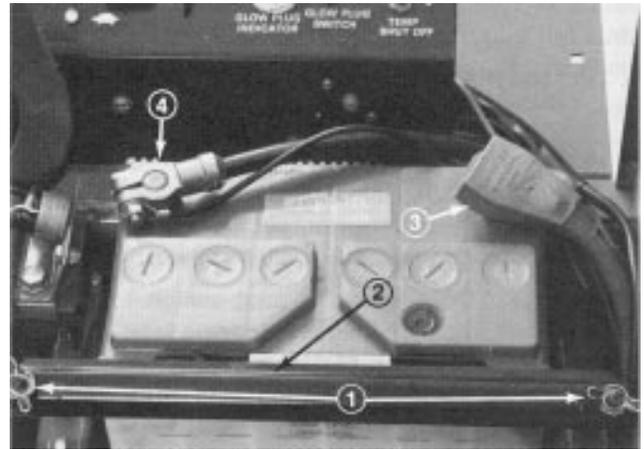

Figure 2
2. Remove two wing nuts and hold down strap that secures battery (Fig. 2). Lift battery out of chassis. Keep wing nuts and hold down strap in safe place for later use.
1. Install battery and secure with hold down strap and wing nuts (Fig. 2). Remove tape over ends of each cable.
2. Slide the red, positive battery cable (Fig. 2) onto positive battery post and tighten nut securely.
3. Slide the black, negative battery cable (Fig. 2) onto negative battery post and tighten nut securely.